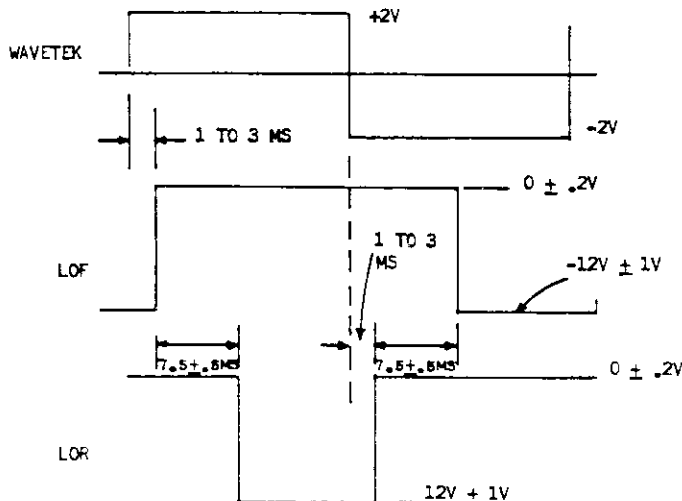

FIG. 3
D) CHECK WAVE SHAPES PER FIG. 3 (TWO UPPER TRACES)
- E. MOVE CHANNEL B TO TERM 27 OR TP7 (LOR) AND CHECK TOP AND BOTTOM TRACES OF FIG. 3.
- F. MOVE CHANNEL A TO TERM 25 OR TP4 (LOF) AND CHECK ONLY THAT BOTH TRACES ARE UP FOR THE 7.5 MS TIMES IN FIG. 3.
- G. CLOSE SW6 AND BOTH LOCKOUTS OF FIG. 3 REMAIN IN UP (OR ZERO) STATE.
- E. CLOSE SW8 AND SW7 AND START REDUCING AC VOLTAGE ON VARIAC. THE TRACES OF THE LOCKOUTS (FIG 3) WILL SLOWLY SHRINK AS THE BUS VOLTAGE DECREASES, BUT AT SOME POINT THE CURVES START SWITCHING ERRATICALLY TO ZERO. THIS MUST OCCUR AT AN AC RMS VOLTAGE UNDER 70 VOLTS.